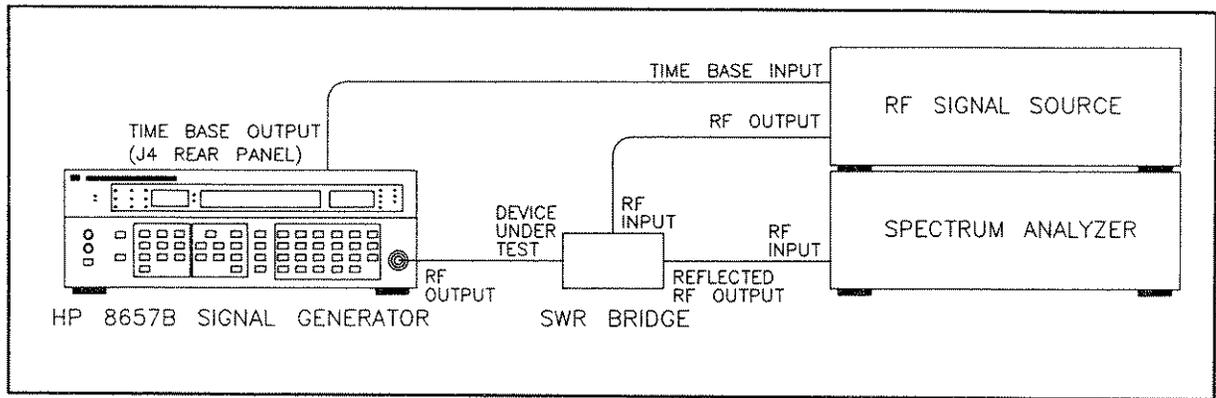

Figure 4-16. SWR Performance Test Setup (Out of Band)
4. Connect the equipment as shown in Figure 4-16.
11. Connect the equipment as shown in Figure 4-16.